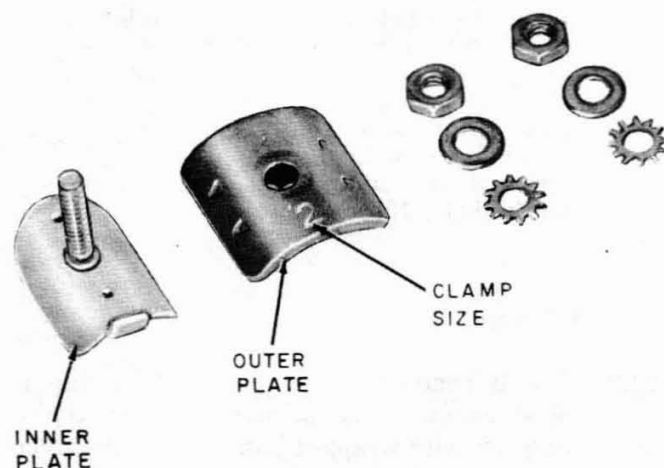

Fig. 1—B Bond Clamp
**2.01** The B and D bond clamps are shown in Fig. 1 and 2. The B bond clamp is available in three sizes as listed in Table A. The size designation is stamped on the inner and outer plates. One size D bond clamp is used for all cable sizes.